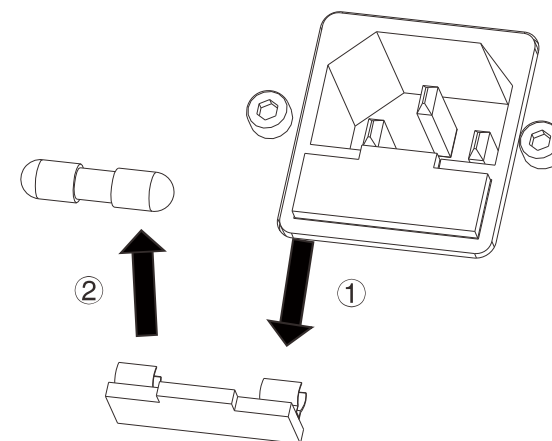

Figure 7-3 Diagram of Fuse Replacement
2. Remove the fuse box from the power input filter with a screwdriver, and put in new fuse as shown by Figure 7-3;